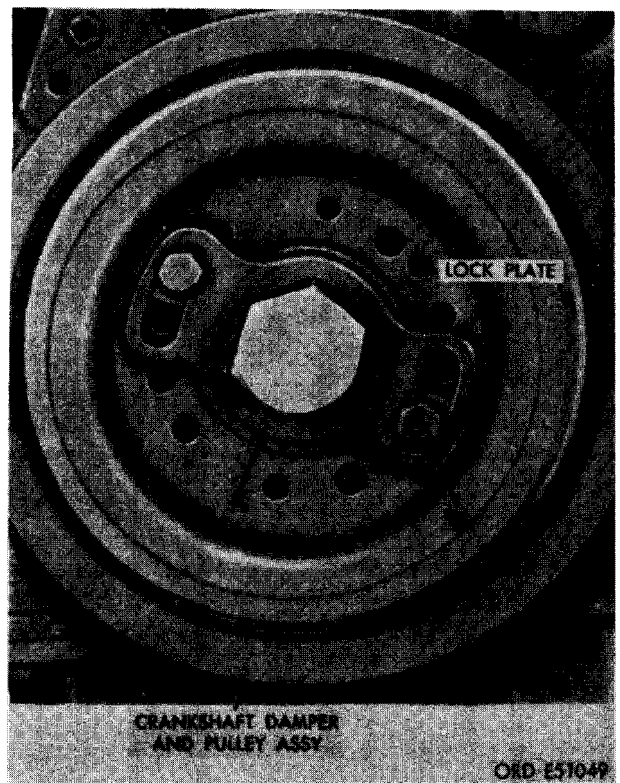

FIGURE 201. REMOVING OR INSTALLING LOCK PLATE.
- (4) Figure 201. (A) Remove two 3/8 x 3/4 cap screws and 3/8- inch lock washers securing lock plate. (B) Remove lock plate.
- (5) Remove crankshaft damper and pulley assembly following instructions in figures 201 through 203.
- (5) Remove crankshaft damper and pulley assembly following instructions for figures 201 through 203.